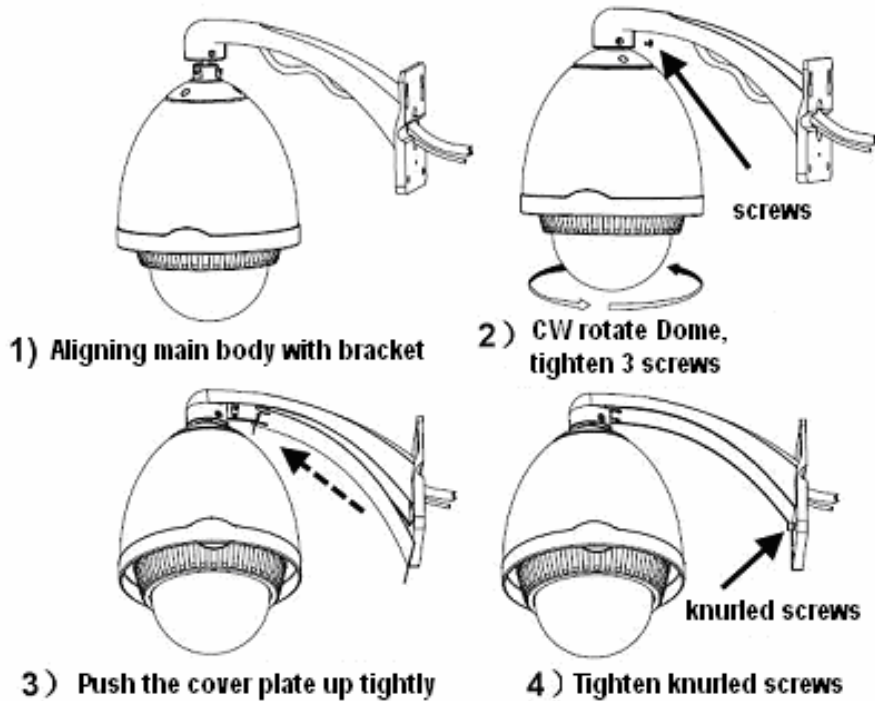

Figure 7
6. Fix the bracket on the main body of dome, rotate the Dome CW (clockwise), and keep the bracket hole and the mounting flange in line. Tighten the three screws.(refer to Figure7)